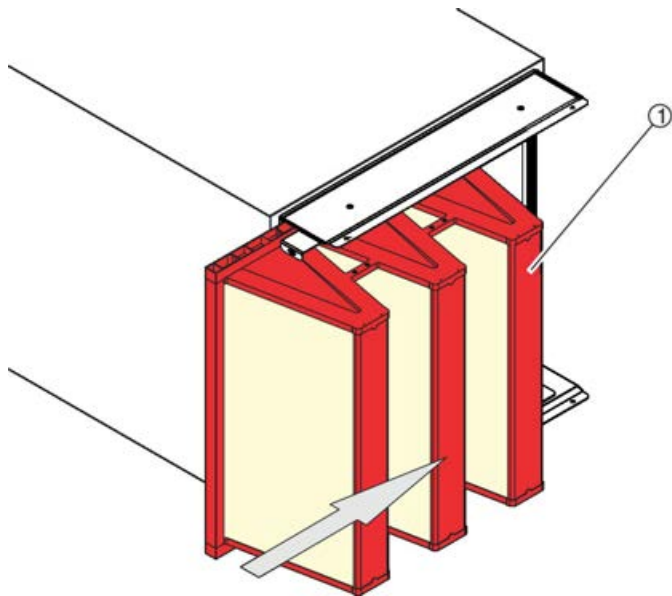

Fig. 26: Replacing the filter element
6. ▶ Slide the new filter element (Fig. 26 /1) in from the side.